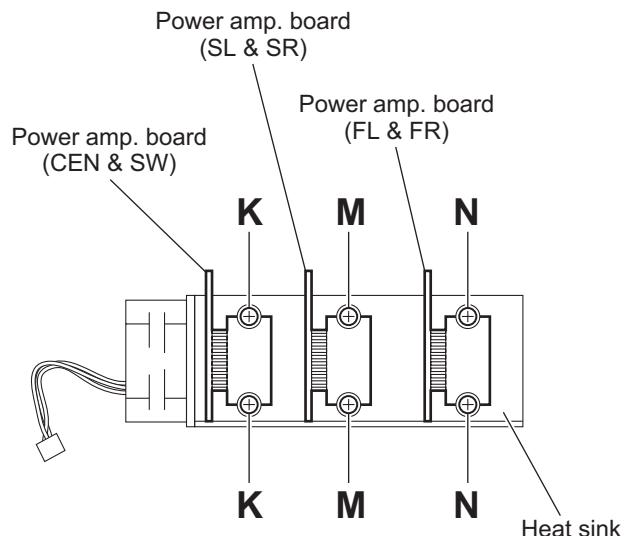

Fig.13
- (5) Remove the two screws **K**, two screws **M** and two screws **N** attaching the heat sink. (See Fig.13.)
- (6) Remove the each power amp.boards from the heat sink.